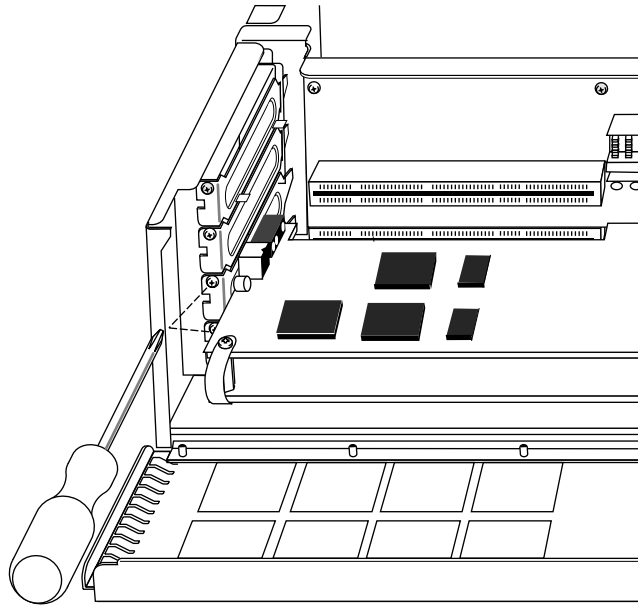

Figure 5-50 Replacing the Screws for the High IMPACT Board Set
6. Insert and tighten the screws that hold the board set to the chassis. The screw openings are located on the metal extension on the left side of each board. The number of screws to insert will equal the numbers of boards in the set. See Figure 5-50.